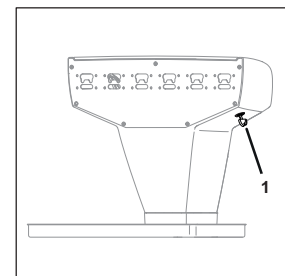

Fig. 55
1. Turn the key switch (Fig. 55/1) to position "1".